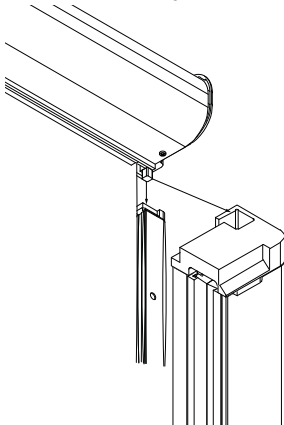

Figure 8
- ⑤ Attach side channel to headbox (see Fig. 8).